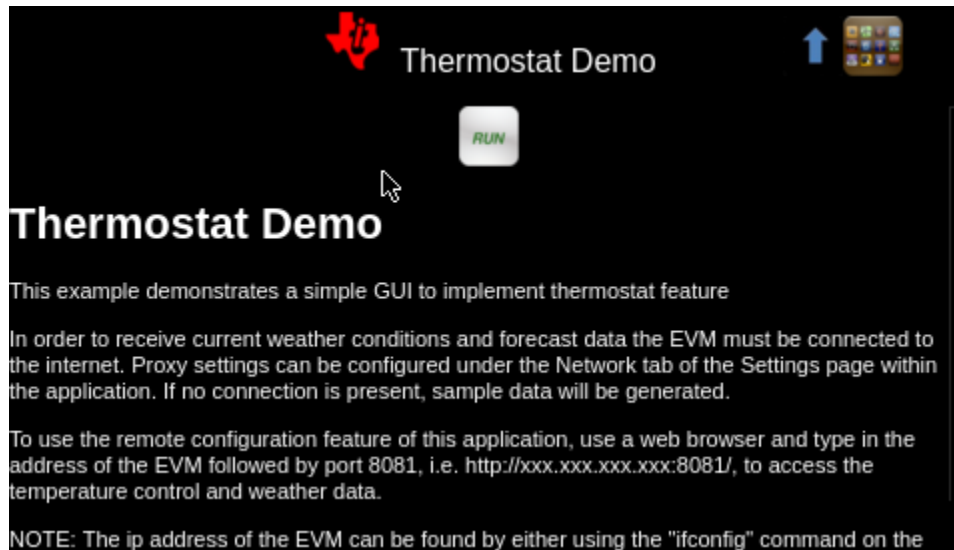

Figure 8. Smart Thermostat HMI Description and Run Screen
3. Figure 8 appears on the screen. Click the *Run* button to launch the Smart Thermostat HMI demonstration GUI.